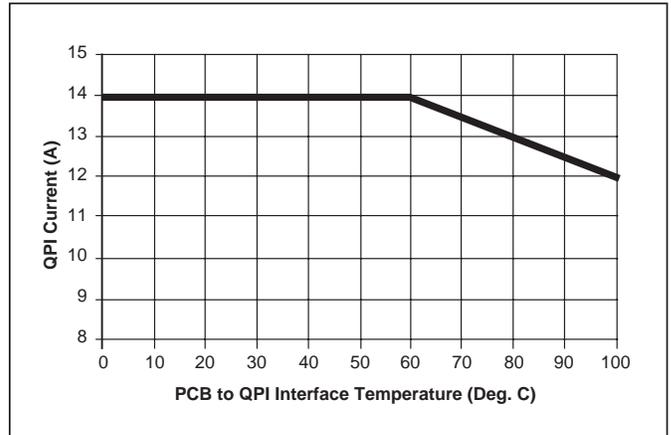

Figure 5 – QPI-6 current derating curve.
- -40° to +100°C PCB temperature (See Fig. 5)
Note 2 - Refer to Figure 5 for current derating curve.
The current derating curve shown in *Figure 5* should be used when the PCB temperature in close proximity of the QPI-6 exceeds 60°C. For example, the QPI-6 will support up to 13 A of current or 528 W from a 48 Vdc bus at an 80°C interface temperature. Temperature should be measured at the PCB interface to the QPI-6 on the Bus +/- pads or the QPI+/- pads. Refer to *Figures 9, 10 & 12* for PCB layout recommendation.